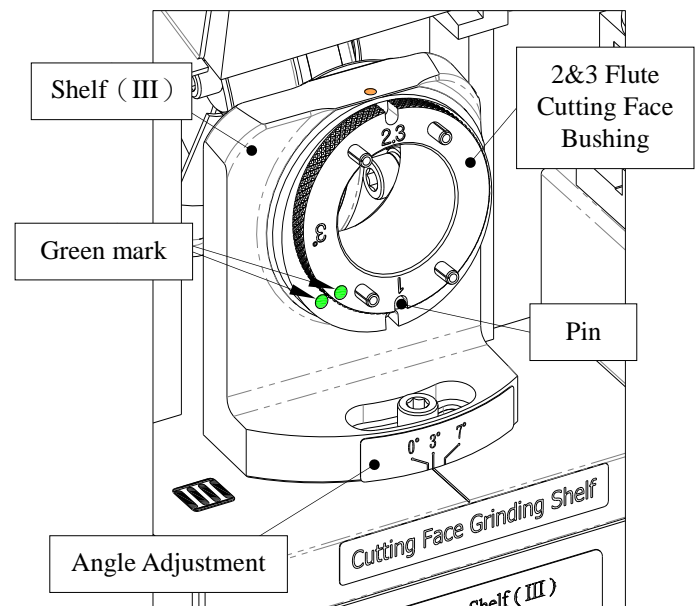

Fig. 16-3
3. Shelf (III) (Fig. 16-3)
- ① Adjust Shelf (III) to 3°.
- ② Insert 2&3 Flute Cutting Face Bushing to Shelf (III), align the Green mark ● of the Bushing with the Green mark ● on the shelf, then insert the bushing gently and align No.1 of the Bushing with the Pin on the shelf.